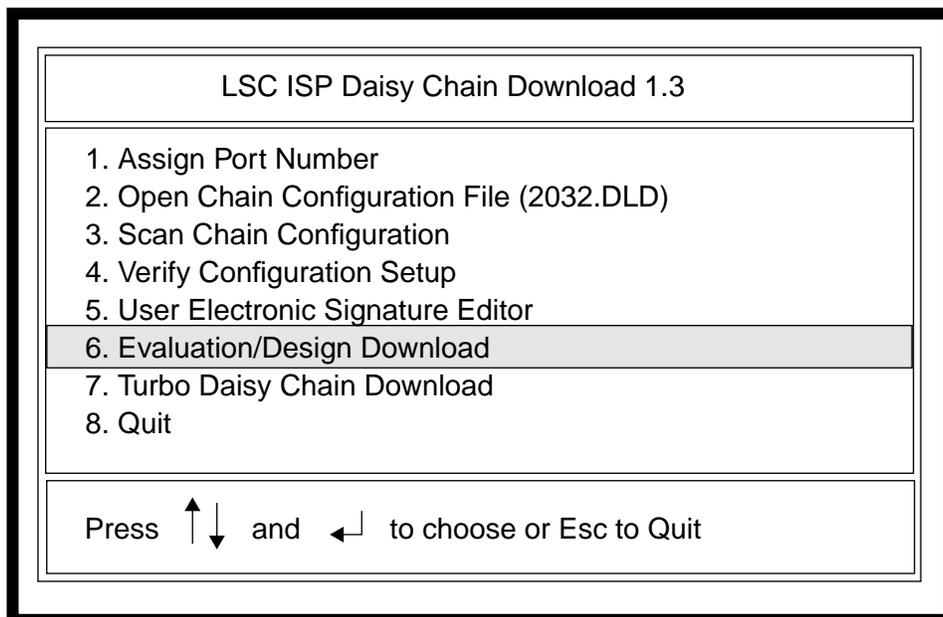
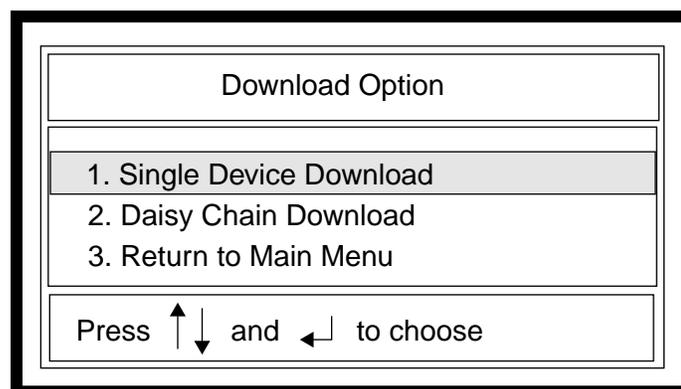

Figure 3-52. Single Device Programming Screen
Figure 3-53. Download Option Menu
1. Type **6** or **E** from the IDCD menu (Figure 3-52). The Download Option screen appears (Figure 3-53.)